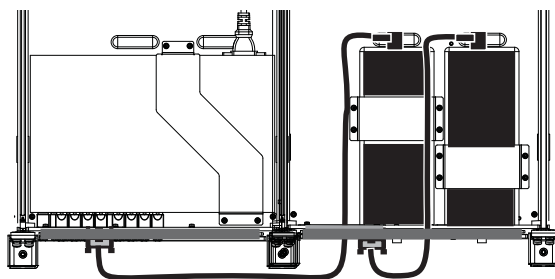

Figure 14. Routing power cables to a chassis with an Ethernet switch
- 3 Do the following to connect power to the chassis containing the Ethernet switch (see Figure 14):